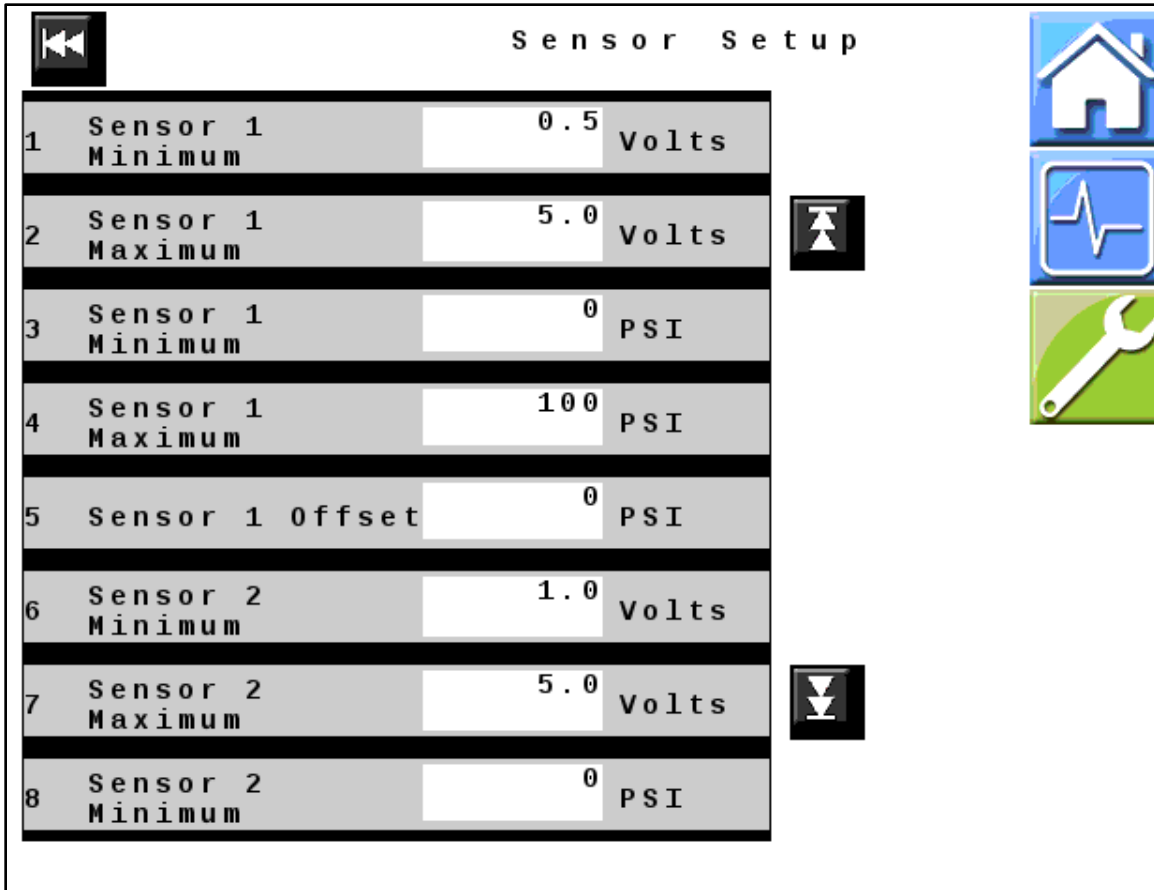

Figure 13 — Sensor Setup Page 1
22. *Figure 13:* Verify that all values displayed on your unit match those shown here. Change values if necessary.